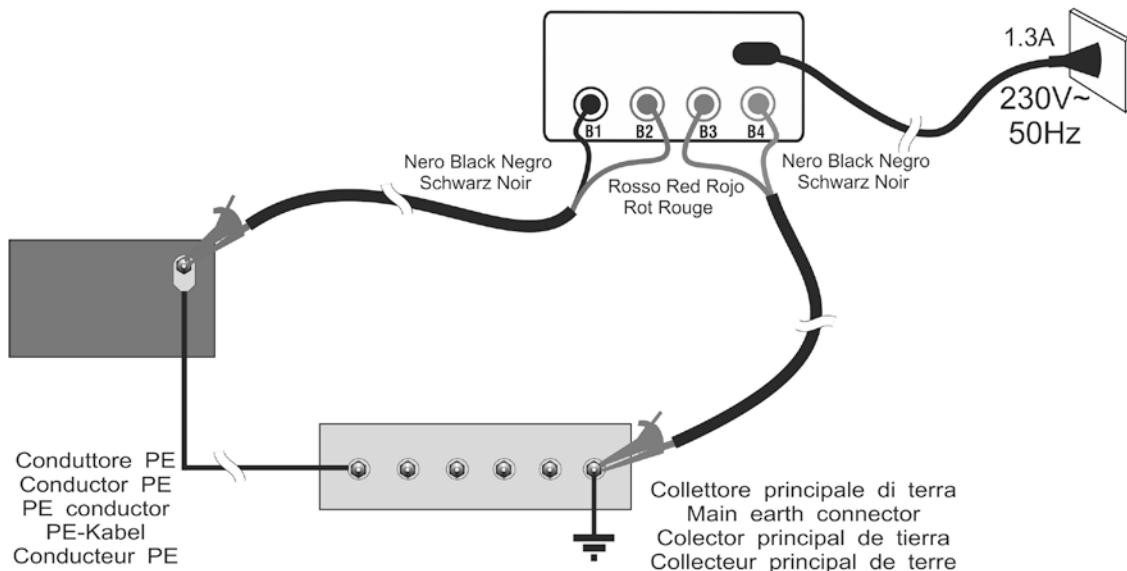

Fig. 5: Instrument connection for  $\text{LOW}\Omega\text{10A}$  test
4. Connect the connectors of the measuring cables C7000 provided to the instrument's input terminals **B1** (Black), **B2** (Red), **B3** (Red), **B4** (Black) and the alligator clips to the item to be tested as indicated in Fig. 5